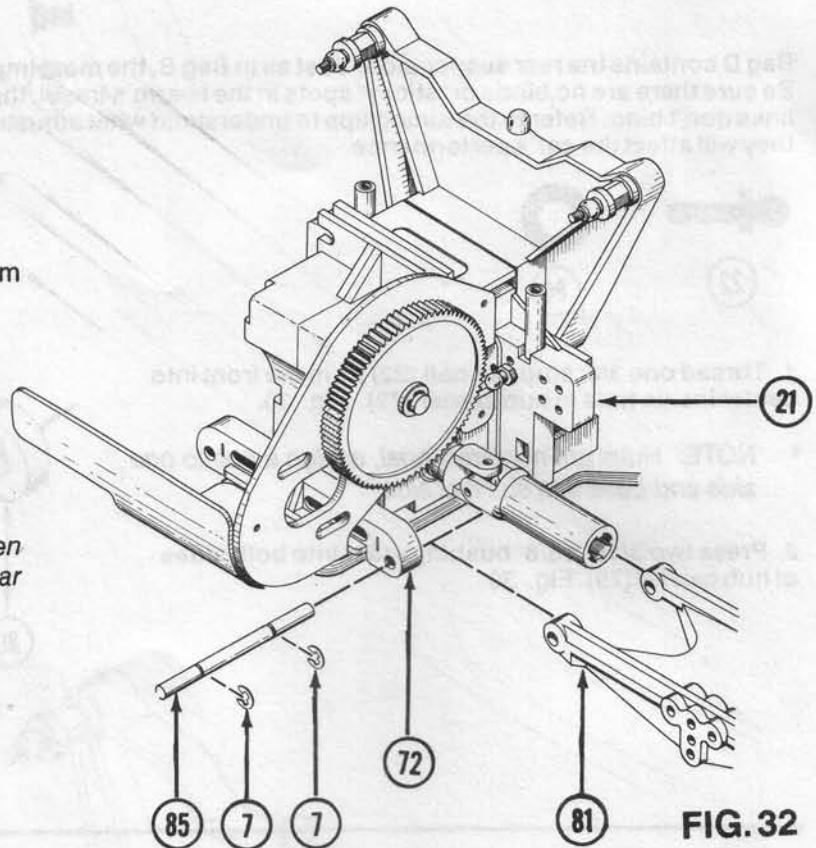

FIG. 32
7. Align free end of H-arm (81) (82) between rear pivot support (72) and rear bulkhead (21). Fig. 32.
* NOTE: Be sure the arrow on the bottom of the H-arm (81) (82) points to the front of the car
8. Insert 1/8" x 1.785 hinge pin (85) through rear pivot support (72) H-arm (81) (82) and into rear bulkhead (21). Fig. 32.
9. Secure H-arm (81) (82) with two 1/8" E-clips (7) in grooves in 1/8" x 1.785 hinge pin (85). Fig. 32.
* NOTE: It's easiest if one groove in pin (85) is given excess room to put on clip (7), then push it into rear bulkhead (21) and clip in second 1/8" e-clip (7).